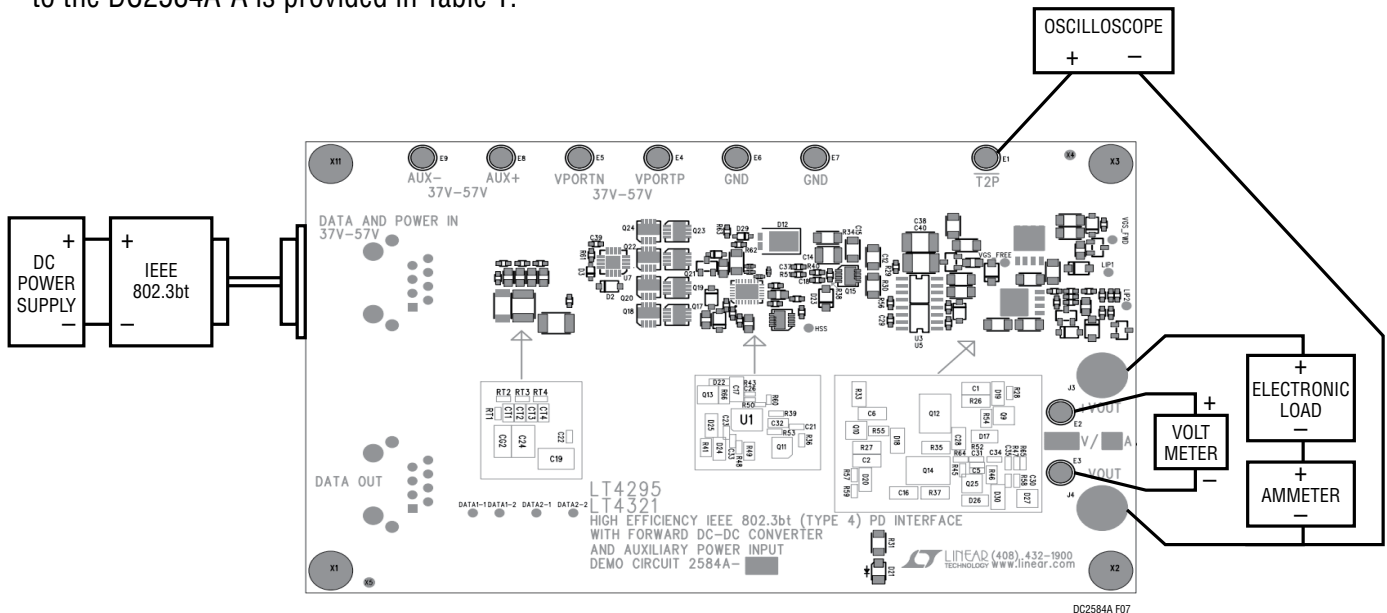

Figure 7. Setup Diagram for PoE Input
2. Place and connect test equipment (voltmeter, ammeter, oscilloscope, and electronic load) as shown in Figure 7.
7. Verify $\overline{T2P}$ response with an oscilloscope as shown in Figure 7. The $\overline{T2P}$ response to the type of PSE connected to the DC2584A-A is provided in Table 1.